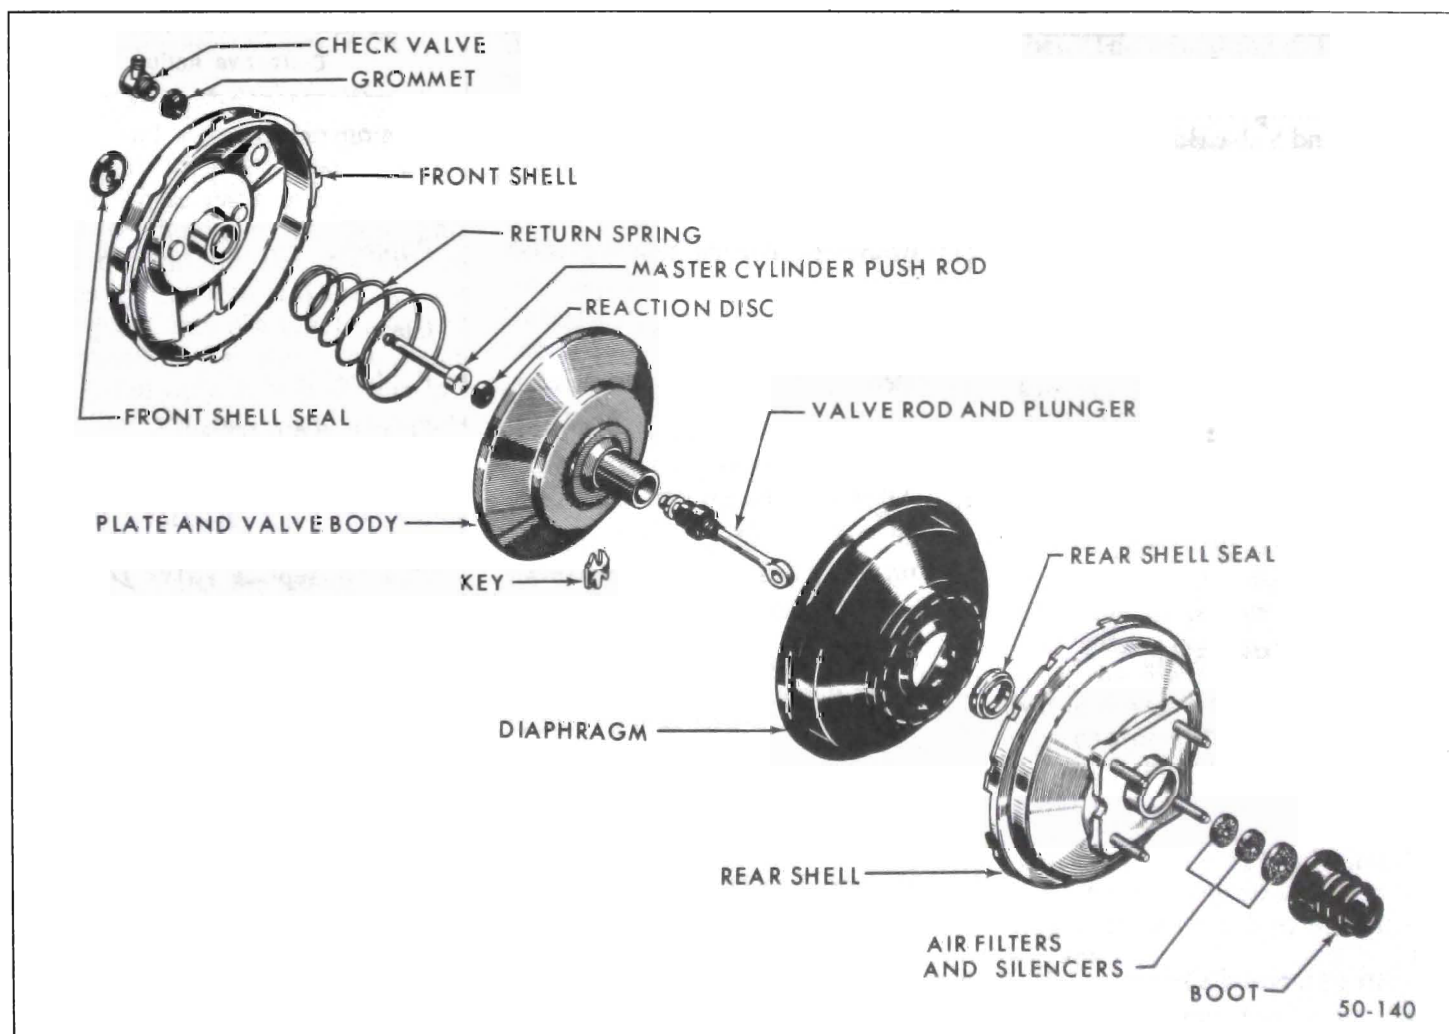

Figure 50-86--Bendix Power Brake Unit - Exploded View
6. Remove seal from front shell, and if defective, vacuum check valve. SZEE Figure 50-86.